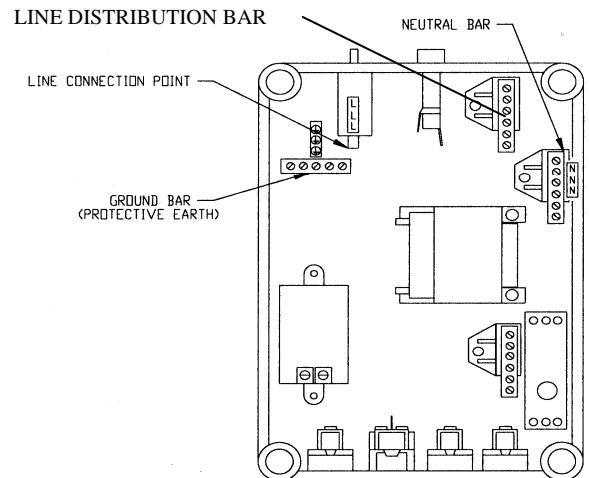

Fig. 9
- c. Connect the line wire to the line distribution bar located in the upper right corner of the tub's electrical box. It will have only black wires connected to it. See figure 9.